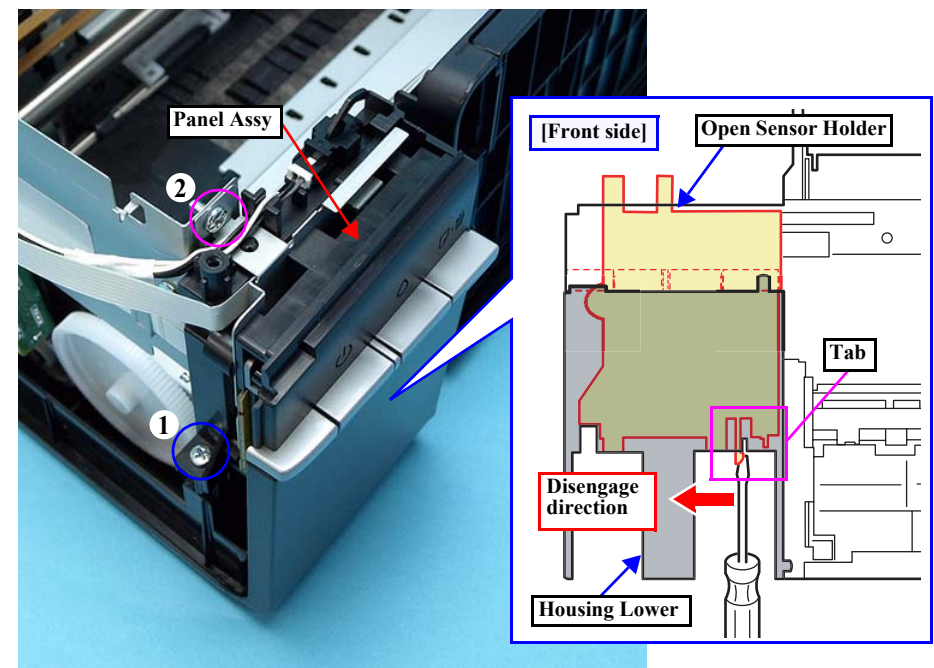
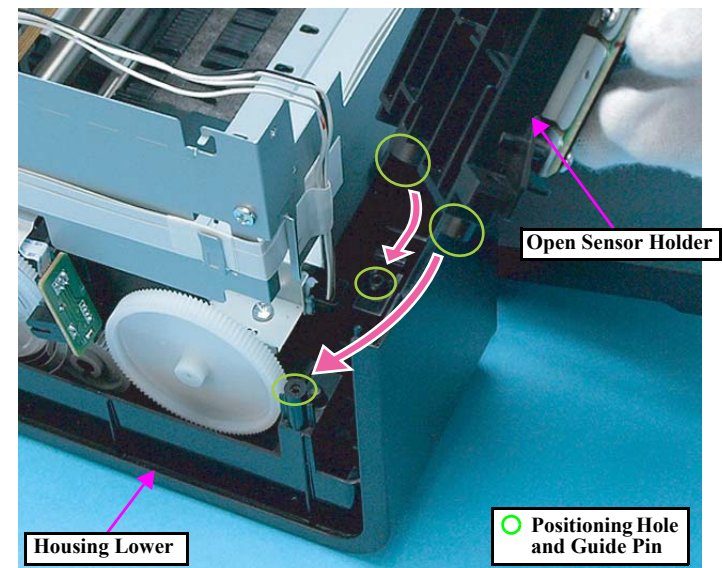

Figure 1-30. Removing the Panel Assy (2)
Figure 1-33. Installing the Panel Assy (2)
When removing the screw (2) shown in Fig.1-30, be careful not to damage the Cover Open Sensor Cable and CDR Sensor Cable.
- Screw (1) (3 pcs.): C.B.P. M3x6 (tightening torque: 5-7 kgf.cm)
- Screw (2) (3 pcs.): C.B.P. M3x10 (tightening torque: 5-7 kgf.cm)
- Tighten the screws in the order given in Fig.1-30.
- As shown in Fig.1-30 (p.30) and Fig.1-33, match the positioning holes of the Open Sensor Holder with the guide pins of the Housing Lower, and secure the Open Sensor Holder with the tab.